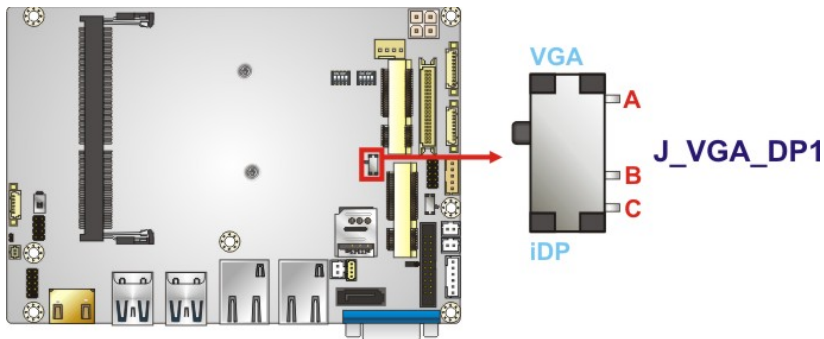

Figure 4-14: VGA/iDP Selection Switch Location
- CN Location:** See **Figure 4-14**
The location of the VGA/iDP selection switch is shown in **Figure 4-14** below.